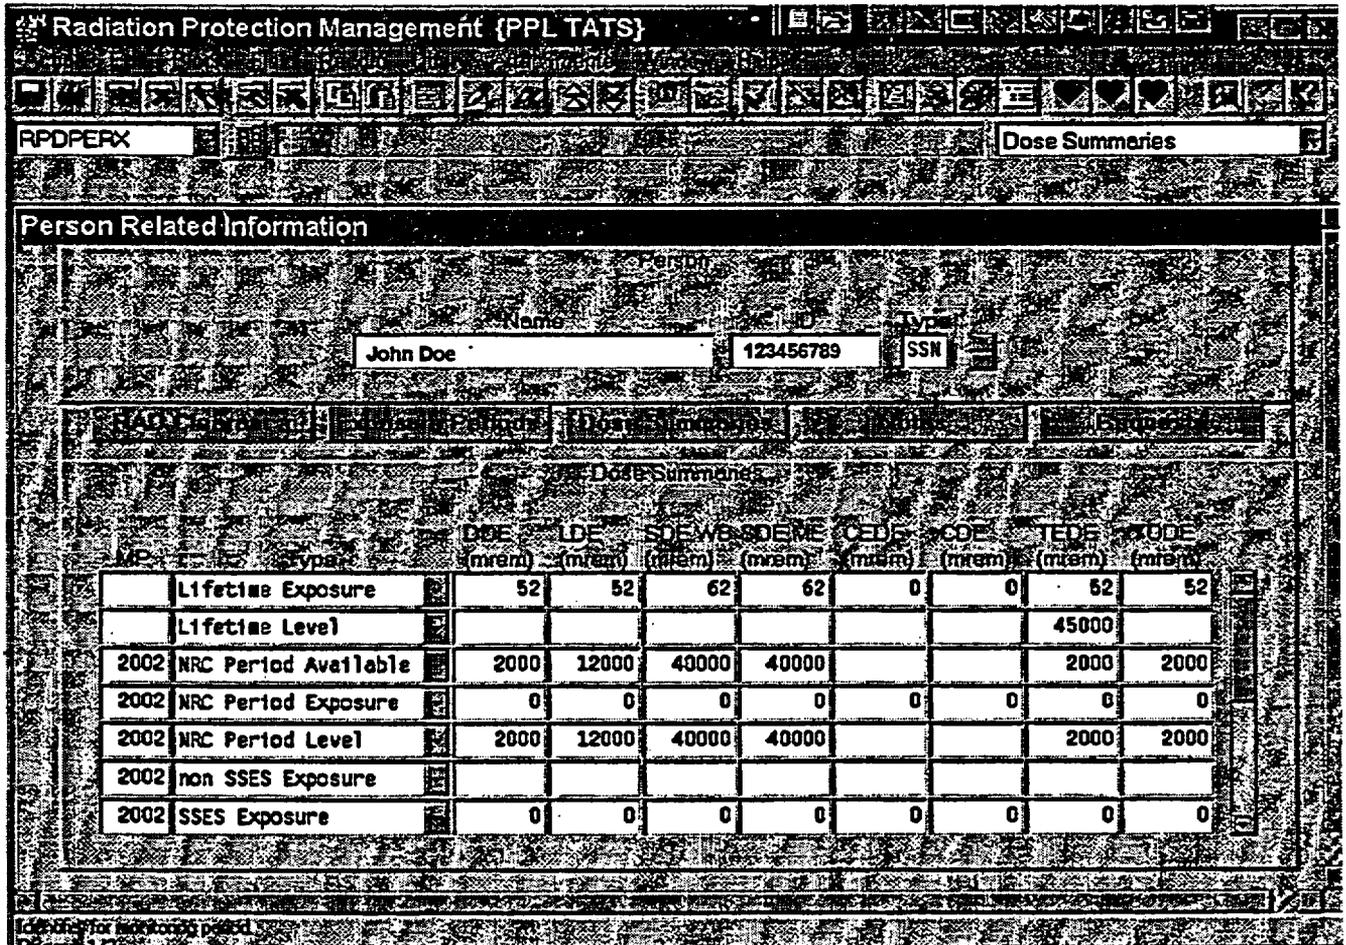

Figure 1
4. The screen in Figure 1 will appear.